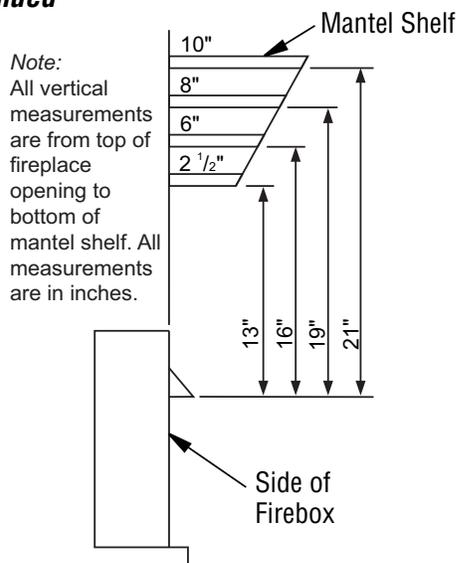

Figure 10 - Minimum Mantel Clearances for Built-In Installation
C. For mantel clearances, see *Figure 10 on Page 13*.
Built-in installation of this fireplace involves installing fireplace into a framed-in enclosure. This makes the front of fireplace flush with wall. An optional trim kit accessory is available (see *Accessories, Page 34*). Trim will extend past sides of fireplace approximately 1/2". This will cover the rough edges of the wall opening. If installing a built-in mantel above the fireplace, you must follow the clearances shown in *Figure 10, Page 13*. Follow the instructions below to install the fireplace in this manner.
NOTICE: If your installation does not meet the minimum clearances shown in **Figure 10**, you must do one of the following: